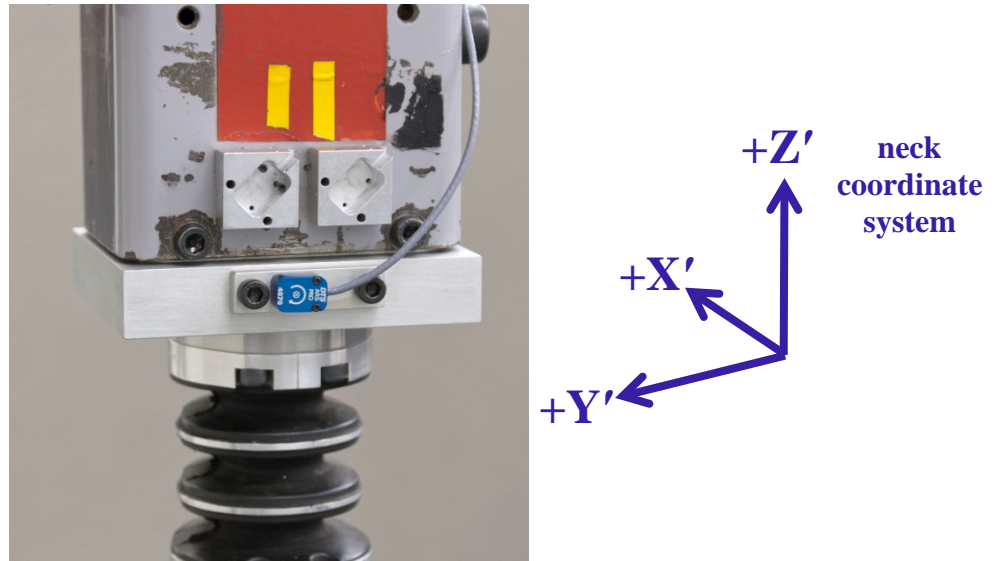

Figure 42. Install ARS to pendulum
- Install the Angular Rate Sensor (ARS)¹² to the pendulum interface plate using two M1.4 x 8 SHCS so that it measures rotational velocity about the X' axis (Figure 42).